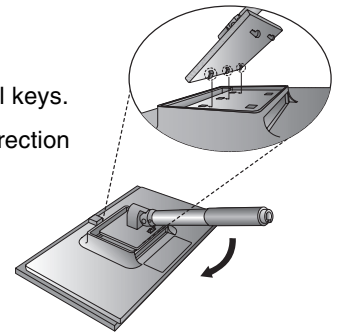

Figure 1
1. Place monitor face down on a non-abrasive surface (**Figure 1**).
2. Put the upper hooks of the stand in the slot of the monitor then push stand into monitor in direction of the arrow as shown in **Figure 1** and confirm that the stand is locked.